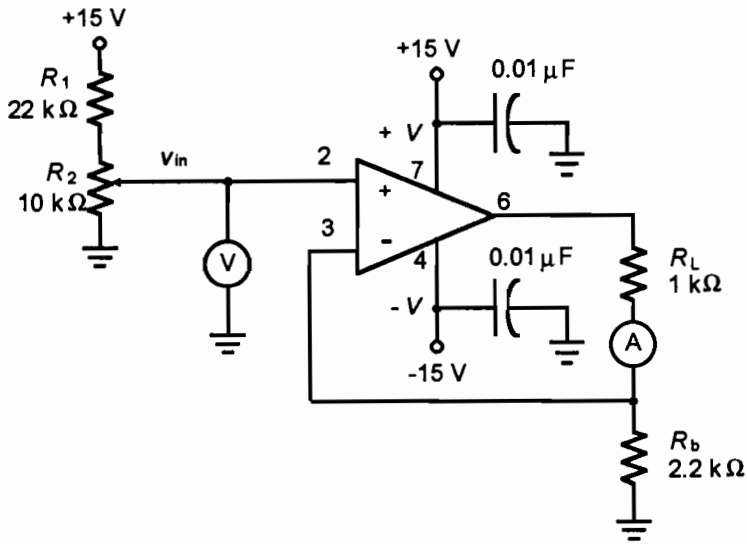

Figure 48.1
1. Construct the circuit in Figure 48.1.
*Note:* If a 1-mA meter movement is not available, it can be simulated as shown in Figure 48.1. The scaling is the same: 1 mA = 1 V.
2. Could the output of the op-amp in Figure 48.1 be connected to a BJT whose emitter is connected to a motor? Explain how the BJT would be turned on, thereby driving the motor.
3. For the circuit of Figure 48.1, if  $v_{in}$  were 10 V, the output current would be \_\_\_\_\_.
4. For the circuit of Figure 48.1, to set the conversion scale to 1 V/0.5 mA, the value of  $R_b$  should be \_\_\_\_\_.